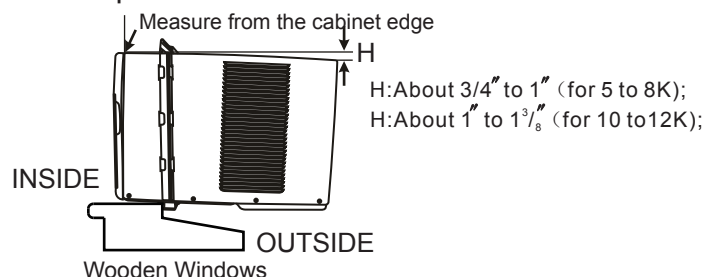
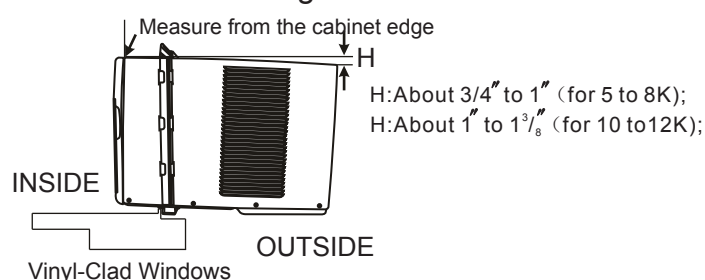

Fig.5A
Fig.5B
- A. Keep a firm grip on the air conditioner, carefully place the unit into the window opening so the bottom of the air conditioner frame is against the window sill (Fig.5A and Fig.5B). Carefully close the window behind the top rail of the unit.
**NOTE:** Check that air conditioner is tilted back about H (Fig.5A and Fig.5B) (tilted about 3° to 4° downward to the outside). After proper installation, condensate should not drain from the overflow drain hole during normal use, correct the slope otherwise.